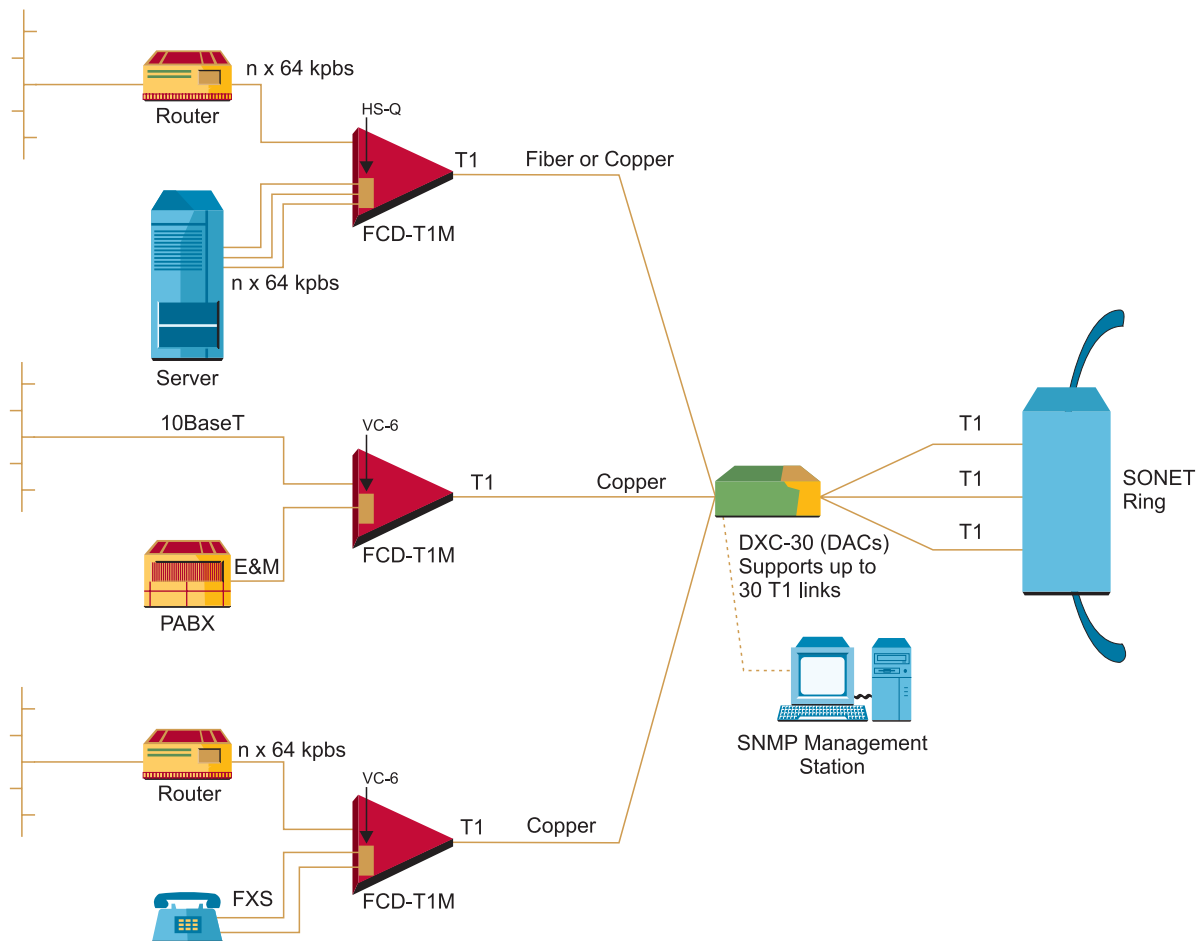

Figure 2. SDH Access Solution for Multiple Remote Sites
- FCD-T1M also operates opposite RAD's modular DXC (multiservice access node) products or other vendors' T1 equipment, for multilink star applications, such as access to SONET networks. The DXCs and FCD-T1M operate together with centralized SNMP network management (see *Figure 2*).